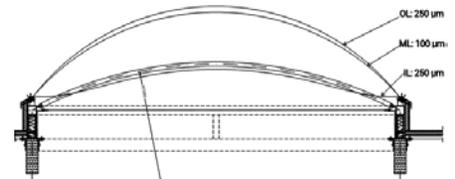

Figure 1: Section through ETFE skylight showing thickness of individual layers. (Image imported from ETFE manufacturer's shop drawings¹.)
The cushions are inflated with a built-in blower/compressor that maintains air between the individual layers and pre-stresses each layer resulting in a dome shaped skylight that is stable against wind and snow loads¹. The skylight manufacturer used RJC’s recommendations for snow and wind loads, and Calgary’s temperature fluctuations to ensure conformity with the local standards. RJC posed the question regarding hail impact damage testing for the ETFE. The manufacturer provided a paper with test results from experiments conducted in Zurich, Switzerland. It also highlighted case studies with hail damage. The results showed that the ETFE can, indeed, be damaged by hail, dependent on the size of individual hail pieces and temperature of the film itself². The extent of damage varies from dimpling of the surface to full puncture². Given that Calgary experiences severe hail storms during spring and summer months, with hail pieces 25 millimetres to 50 millimetres in size, this was an imperative design load to consider. The solution was incorporating a three-layer system with a slightly under-inflated outer cushion. The inner and outer layers (IL, OL) are each 250µm thick, while the middle layer (ML) is 100µm thick, as shown in Figure 1.